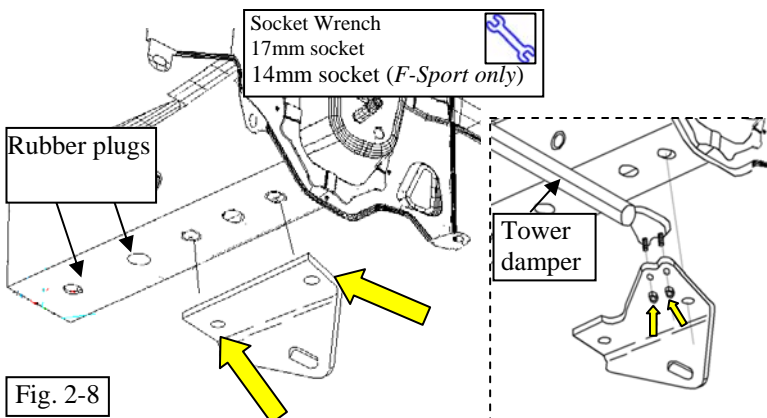

Fig. 2-8
Before removing the the tow hooks, it is necessary to remove the tower damper. Remove the 14mm nuts (4 places) connecting the LH/RH tow hooks to the tower damper. Lift it up and over the tow hooks and discard. Then remove the tow hooks from the vehicle frame as detailed in Step 2n. (Fig. 2-8)
- (n) Using a socket wrench and 17mm socket, remove and discard the RH/LH tow hooks and 4 M12 bolts. Remove and discard the rubber plug on RH/LH rails. (Fig. 2-8)